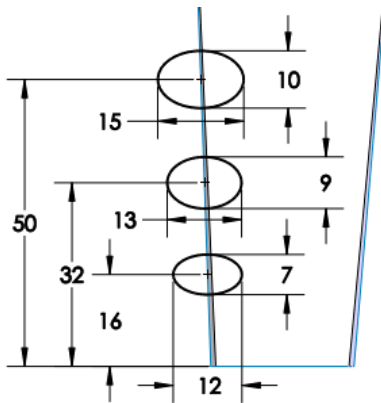

Figure 1-149 Sketch created for extruding the surface
2. Create a sketch for extruding the surface, as shown in Figure 1-149.